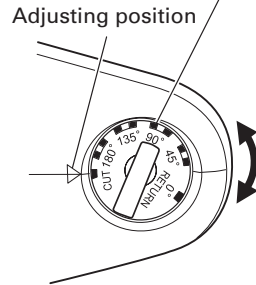

Fig. 6
- (1) Turn the lever in the direction of the arrow mark and open the cover.
- (2) Set the setting dial at the "cut" position. (Turn the setting dial all the way clockwise.) (Fig. 6)